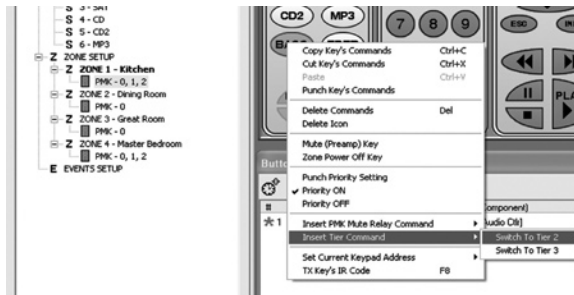

Figure 37 Placing Tier Commands
2. Right-click the **BASS** button, **Insert Tier Command**, then left click **Tier 2** on the Insert Tier Command line of the pop-up. Refer to **Figure 37**. This will cause the first press of the BASS key to point to Tier 2 commands on the Bass and ▲ (Up) keys.